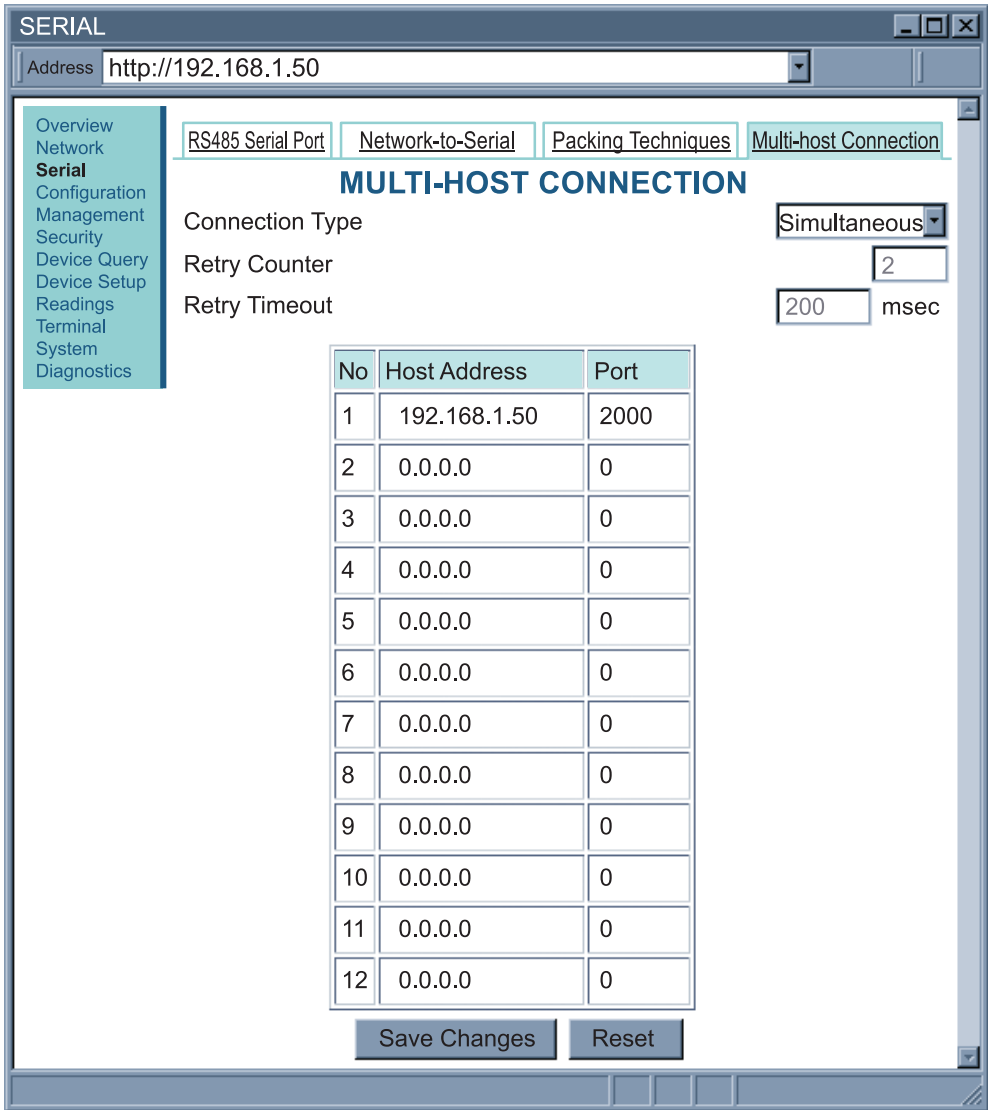

Figure I-3 SERIAL - Multi-Host Connection (-C4EIT)
- s** Is the configuration command, used to set a new setting (see the example in **Figure I-3**)
7. Under *Multi-host* section (see **Figure I-3**), set the **Connection Type** to **Simultaneous/ Sequential**, enter the **Remote IP address** (would be the IP address of the remote iServer, 192.168.1.50), and use the default **Remote Port** number **2000**.